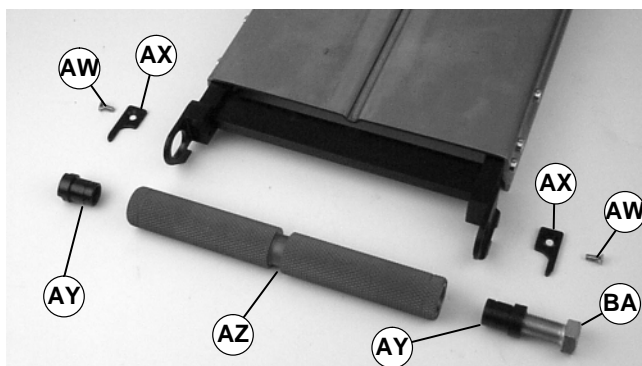

Figure 38
1. Remove the two (2) screws (AW of Figure 38).
2. Remove two clips (AX).
3. Install bolt (part # 906-278☆) (BA of Figure 38) into bearing sleeve(s) (AY). Remove bearing sleeve(s) (AY).
NOTE: If retaining sleeve (AY of Figure 38) does not slide out: